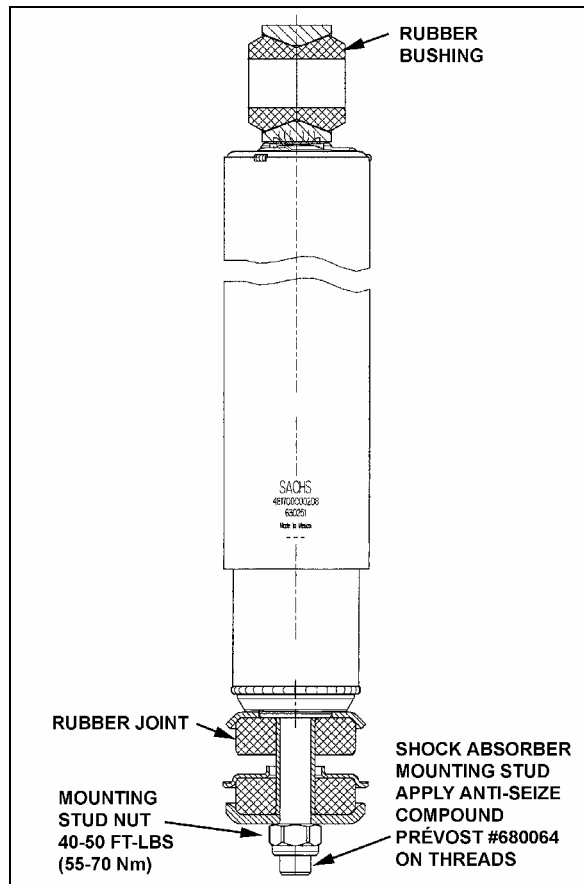

FIGURE 22: SHOCK ABSORBER
2. Remove the nut and washer from shock absorber mounting pin (upper side), taking care to identify the inner and outer washers to ease reinstallation. Refer to figure 22 for details.
3. Place the inner washer on shock absorber pin (Fig. 22).